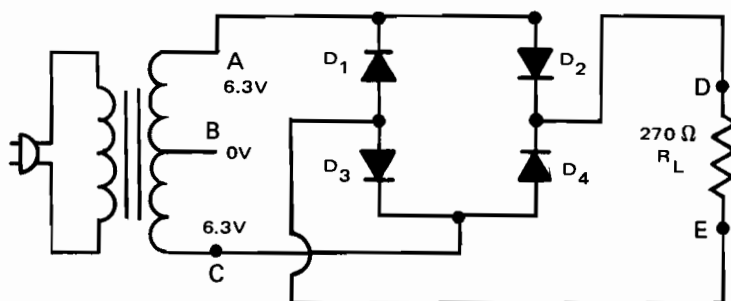

Fig. 15-3-1
1. Connect bridge rectifier as in Fig. 15-3-1. Transformer supplying ac input for this circuit does not need a center connection as in previous full-wave rectifier circuit.
1. Explain the conduction path in Fig. 15-3-1 when point A is positive and C is negative. Start at point C. _____
2. Explain the conduction path in Fig. 15-3-1 when point A is negative and C is positive. Start at point A. _____